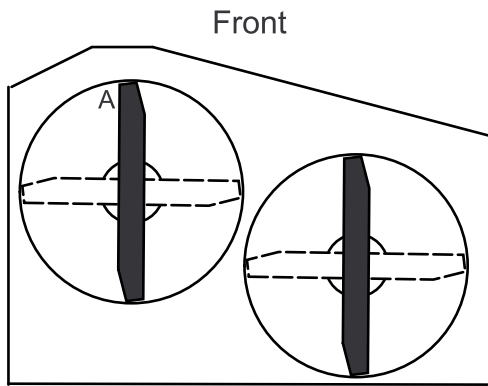

Figure 59
3. With the machine on level surface, position one blade front-to-rear. Measure at **A** and from level surface to the cutting edge of the blade tips (Figure 59).